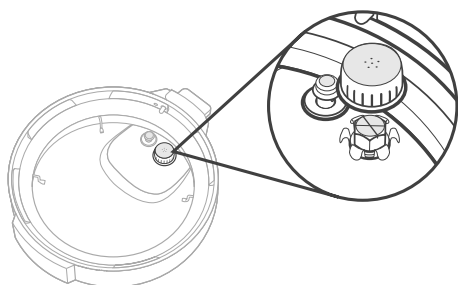

Figure 10.2
- b. Remove the anti-block shield by gripping it from either side, then pulling it up. [Figure 10.2] Rinse and dry the anti-block shield and replace it inside the lid.